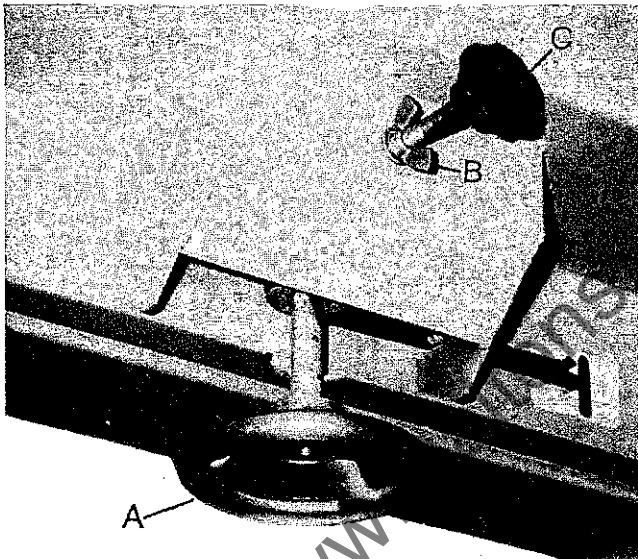

FIG 8
5. Lower top wheel assembly by handwheel "A", FIG.8, sufficient to allow blade to be fitted to both wheels.
7. Turn tensioning handwheel "A", FIG.8, until blade is just held on the wheels.
4. If not running central, loosen wingnut "B", FIG.8, then turn handwheel "C" until saw is tracking correctly, i.e. in the centre of both wheels.
2. Turn handwheel "A" FIG.8, until blade can be pulled 6mm ($\frac{1}{4}$ ") from its true line at central point between wheels. Blade is then tensioned correctly.